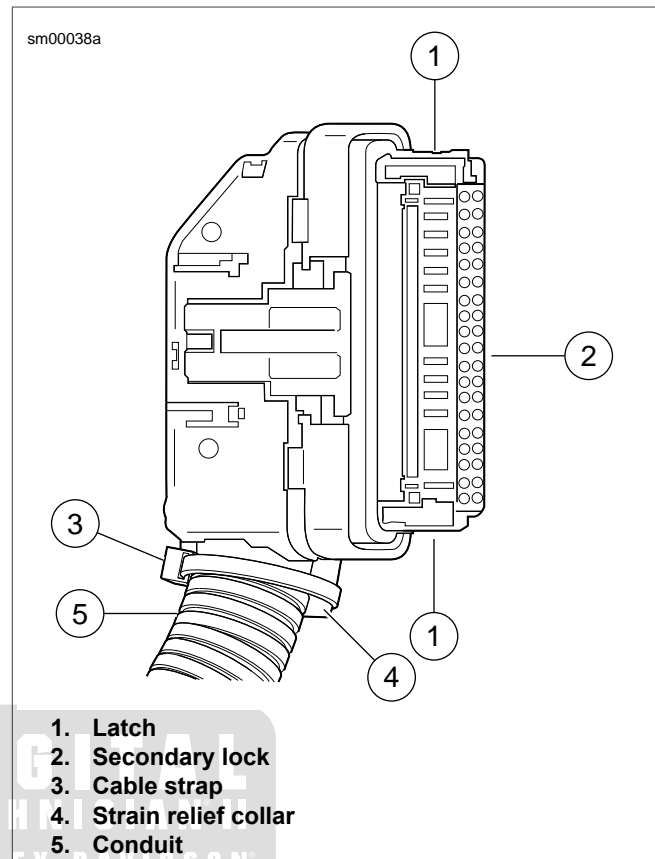
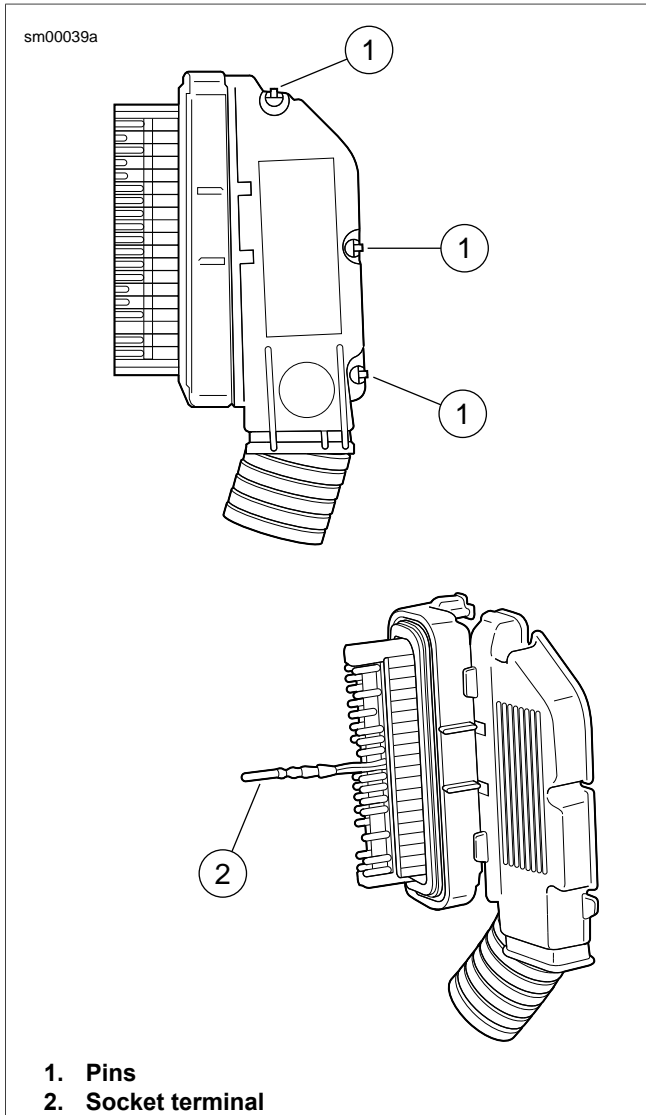

Figure A-12. Delphi 100W Micro-Pack Sealed Connector
Figure A-13. Delphi 100W Micro-Pack Sealed Connector: Separate Halves of Socket Housing
1. See Figure A-12. To remove, gently press latch (1) on each side of the clear plastic secondary lock (2). For best results, release one side at a time.
2. Carefully cut cable strap (3) to free strain relief collar (4) from conduit (5).
3. See Figure A-13. Using a thin blade, gently pry at seam at back of socket housing to release three plastic pins (1) from slots in housing. Separate and spread halves of socket housing.